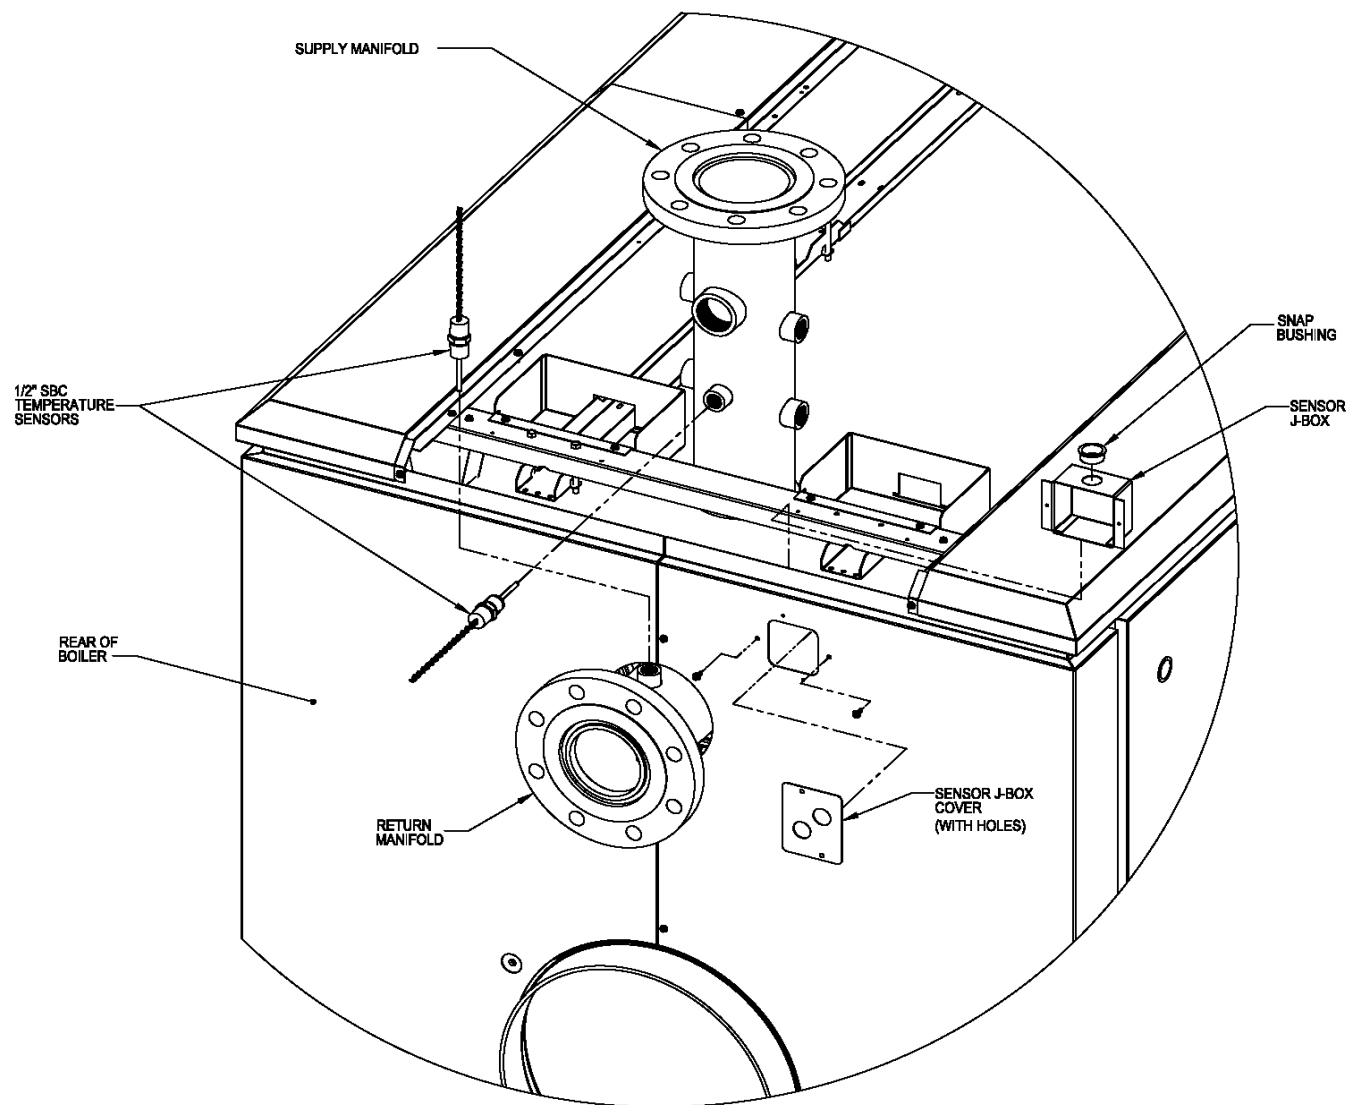

Figure 1: Installation of SBC Components (Part 1)
- b. Install the sensor in the ½" tapping facing upward on the MPC return manifold. Refer to Figure 1. (If an RWMT positioning plug has already been installed in this tapping, remove it and replace it with the sensor.) Make sure that the hole in the top of the return water mixing tube is aligned with the tapping in the manifold and that the sensor probe slides through this hole without interference. Wrench the sensor until watertight.
- d. Install the sensor in the ½" supply manifold tapping that faces the rear of the boiler. Refer to Figure 1. Wrench the sensor until watertight.
- c. If the boiler control wiring has already been installed in the rear top panel, remove the two (2) screws from the rear flange of the panel, slide the panel back, and tilt it upward in order to gain access to the primary internal junction box.
- d. Remove the sensor J-box and black snap bushing from the Sage Boiler Control Parts Carton and install the bushing in the 7/8" hole in the J-box. Mount the sensor J-box (with the snap bushing facing upward) to the inside surface of the right split rear panel using two (2) of the #8 x ½" lg. hex head SMS provided. See Figure 1.
- a. Remove the painted sensor J-box cover (with holes) from the carton. If the blank cover plate is already mounted on the right rear split panel, remove it. Using flexible conduit and the appropriate conduit connectors (supplied by others), connect the inlet and outlet temperature sensor wiring to the two (2) holes in the sensor J-box cover plate. Refer to Figures 1 and 2. The conduit length should be sufficient to allow the cover plate to be installed over the sensor J-box opening in the right rear panel.